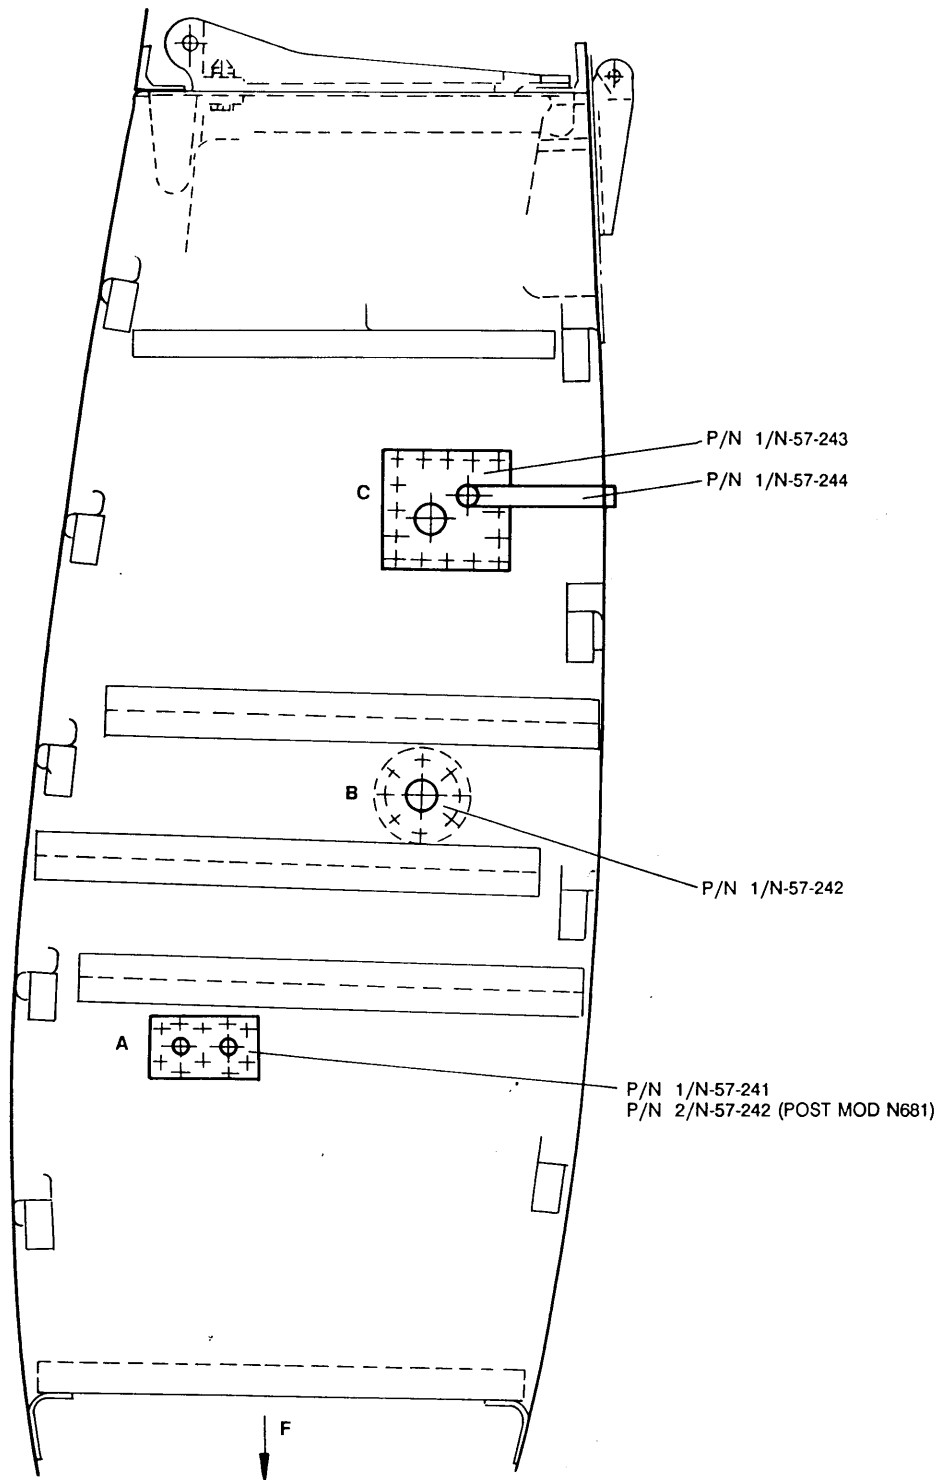

Figure 2 Pipes Removal Fuel System, Auxiliary Tank
- (2) Fuel Pipes Removal/Replacement
- (a) Refer to Figure 2. As necessary, remove the following items by de-rieveting Panels A, B or C from the rib at WSta. 259.60: